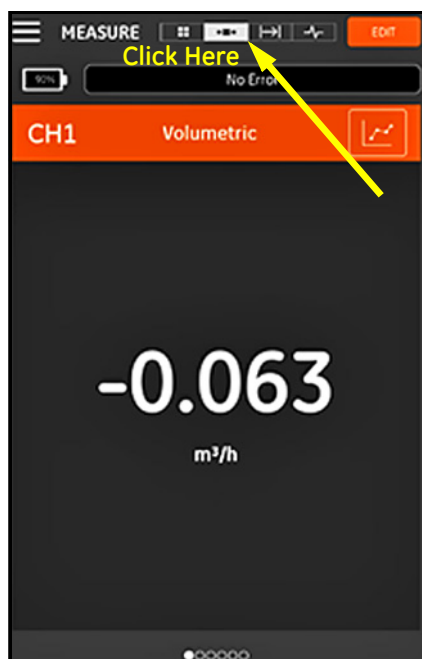

Figure 108: Single Measurement Screen
To change the screen to a one-measurement display (see *Figure 108* below), click the  icon. In this mode, one measurement is displayed at a time and you can switch between available measurements by swiping across the screen left or right.
- The default one-measurement display is the numeric value of the real-time measurement, as shown in *Figure 108 on page 102*.